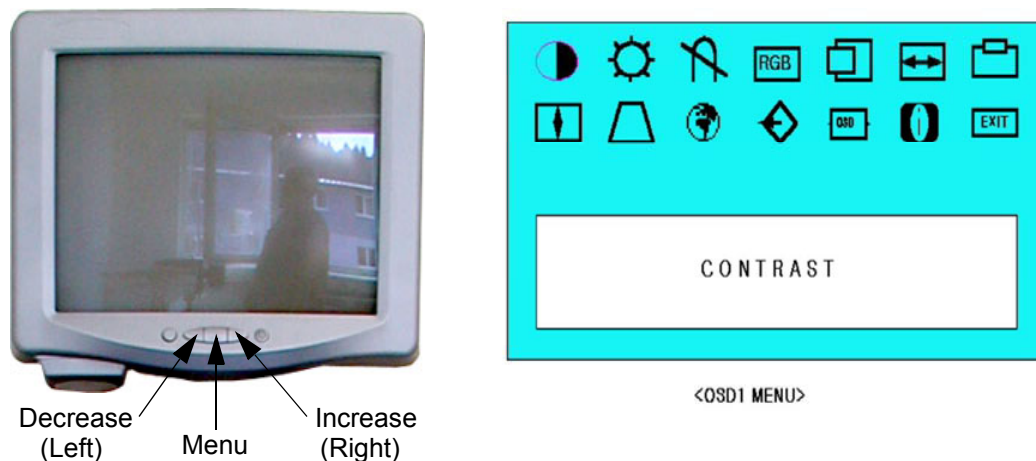

Figure 6-1 Monitor Adjustment buttons
- 1.) Press and hold the **MENU** (middle) key (see: Figure 6-1) on the monitor controls for approximately 4 seconds till the OSD menu appears on the screen.
- 1.) Press the MENU (middle) key (see: Figure 6-1) on the monitor controls